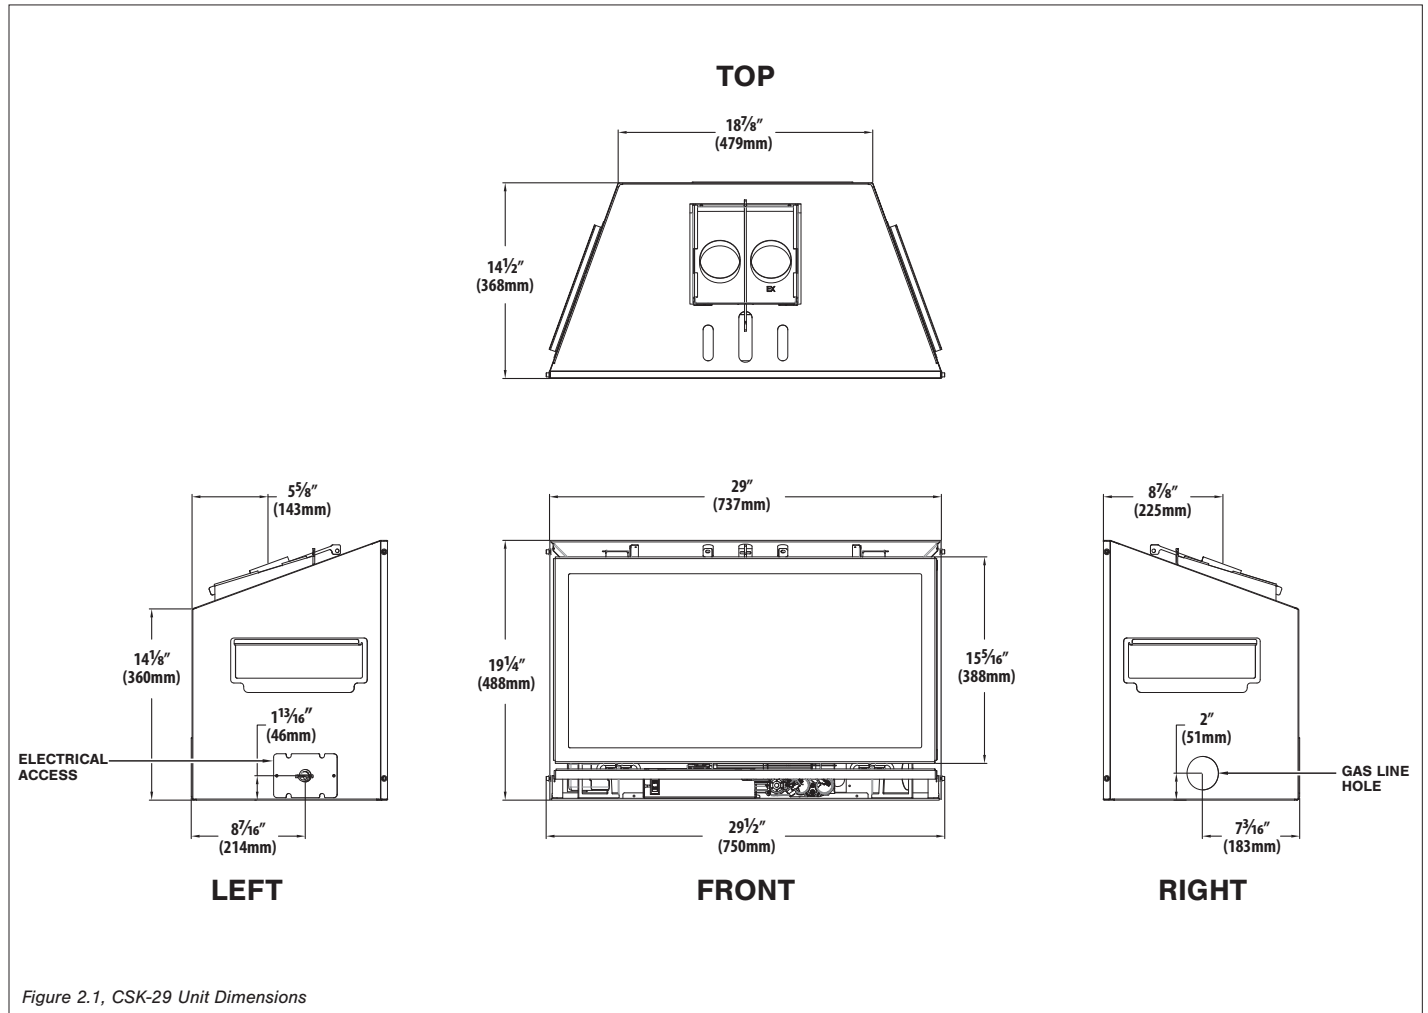

Figure 2.1, CSK-29 Unit Dimensions
- Refer to Section 2.3 Appliance Dimensions (Figure 2.1) on page 9 for electrical outlet box location to run any necessary electrical wiring to the gas fireplace insert.